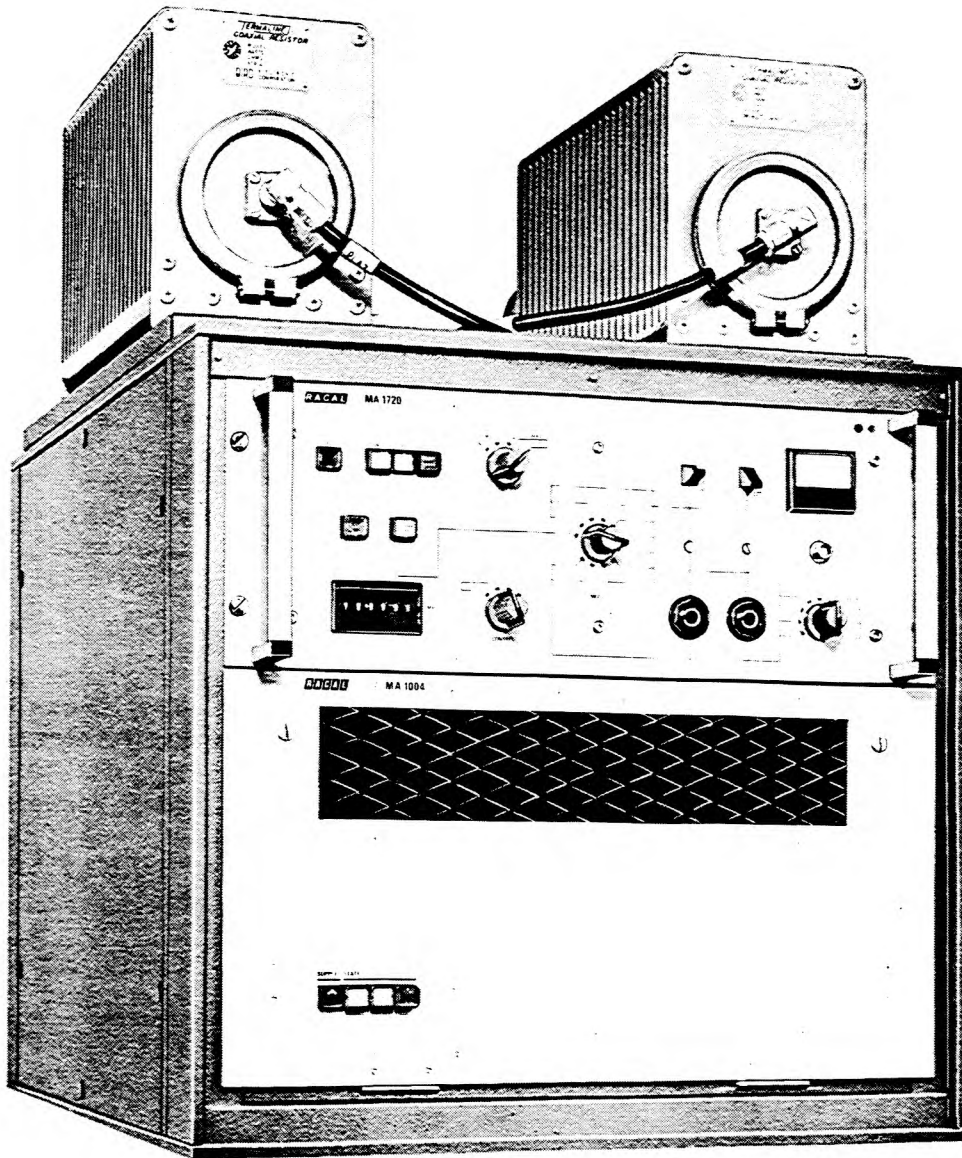

Fig.1 Drive unit assembly 5820-99-631-8614 : general view
2. The MA.1721S (fig.1) provides the additional r.f. drive source and feeder matching facilities required when the TTA.1860S is used in the dual-drive configuration. The drive unit MA.1720S, the feeder matching unit MA.1004 and the line switching assembly, which are identical items to those fitted in the TTA.1860S, are fully described in Chap.2, 5 and 6 respectively.